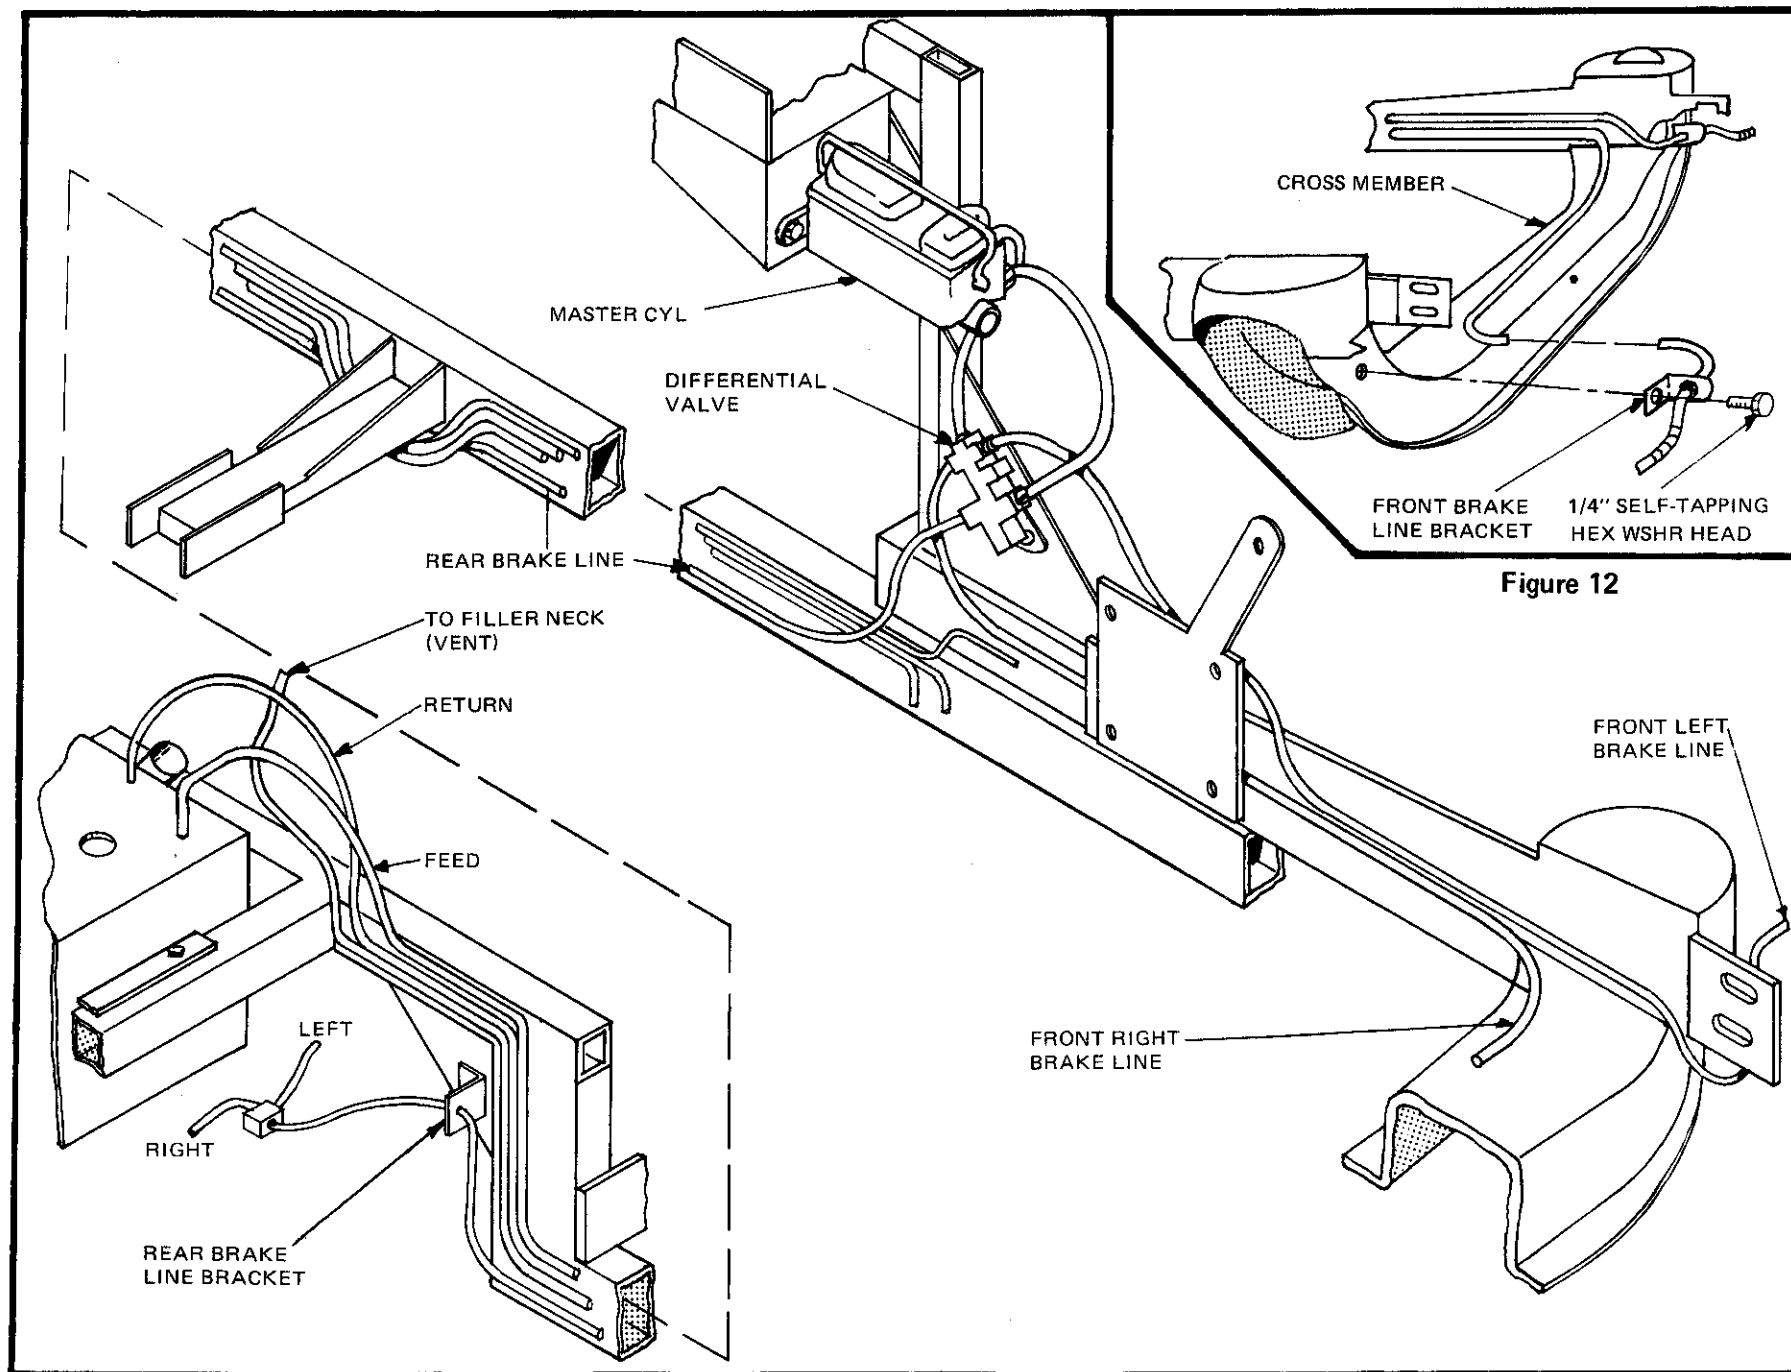

Figure 13
- ☐ Route all lines along main frame member on left side of car. Termination of lines should roughly coincide with illustration. For fuel lines, exact locations are not important, as final connection will be made with neoprene hose. Attach to frame using the original fasteners removed from the Pinto and self-tapping screws. (Figure 13)